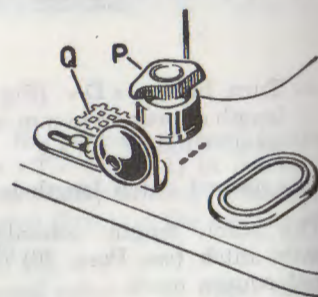

Fig. 18
- Turn button «P» so that one of its prongs faces the square mark «Q» (Fig. 18).